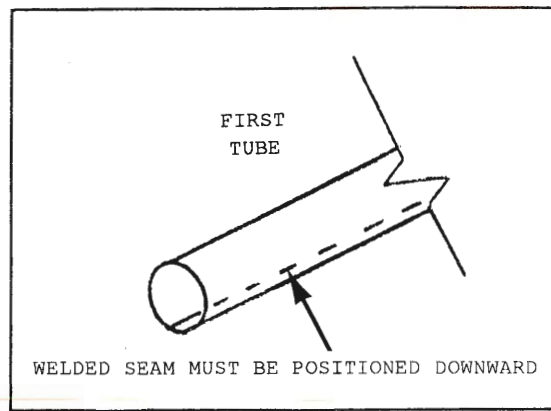
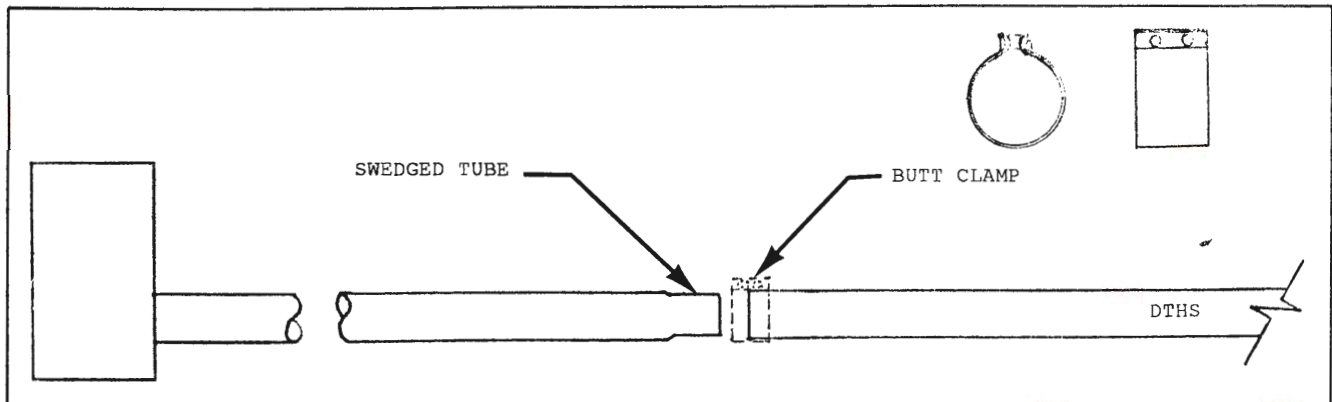
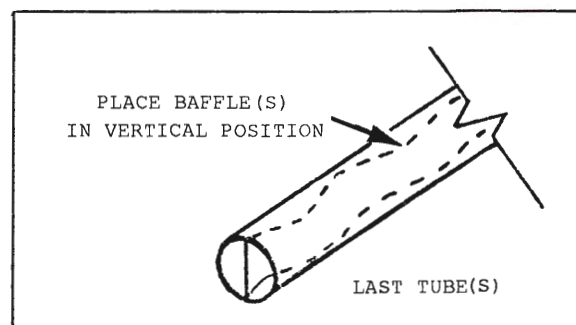
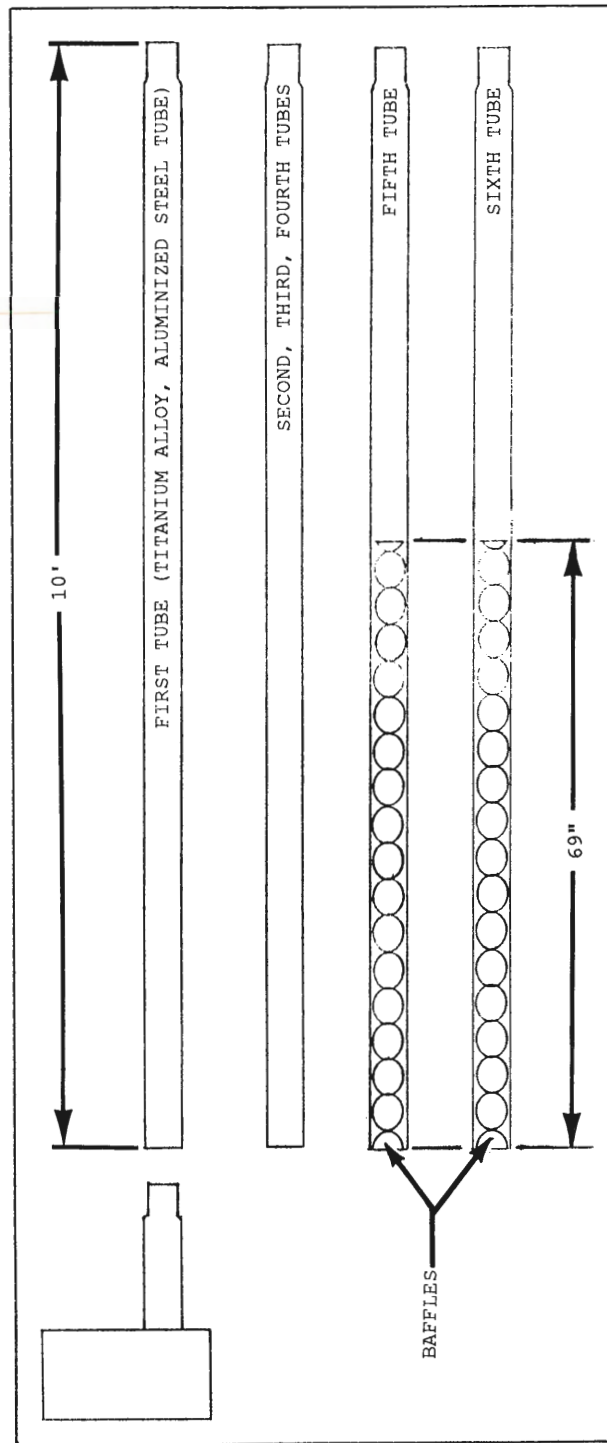

Figure 2-8
Figure 2-9
Figure 2-10
Figure 2-11
3. Mount hangers on approximately 10-ft. centers. Slide tubes through hangers with weld seam downward (see Figure 2-8) and fasten with butt clamps. See Figure 2-9. Tighten to approximately 50-70 ft.-lbs. The DTHS20 and DTHS40 models utilize a single baffle which must be installed in the last radiant tube. The DTHS60 models are shipped with the baffles already installed in two of the radiant tubes. These two tubes must be installed last (See Figure 2-11). All baffles must be in a vertical position (See Figure 2-10). The position of the baffles within the tubes is preset, and should NOT be changed.